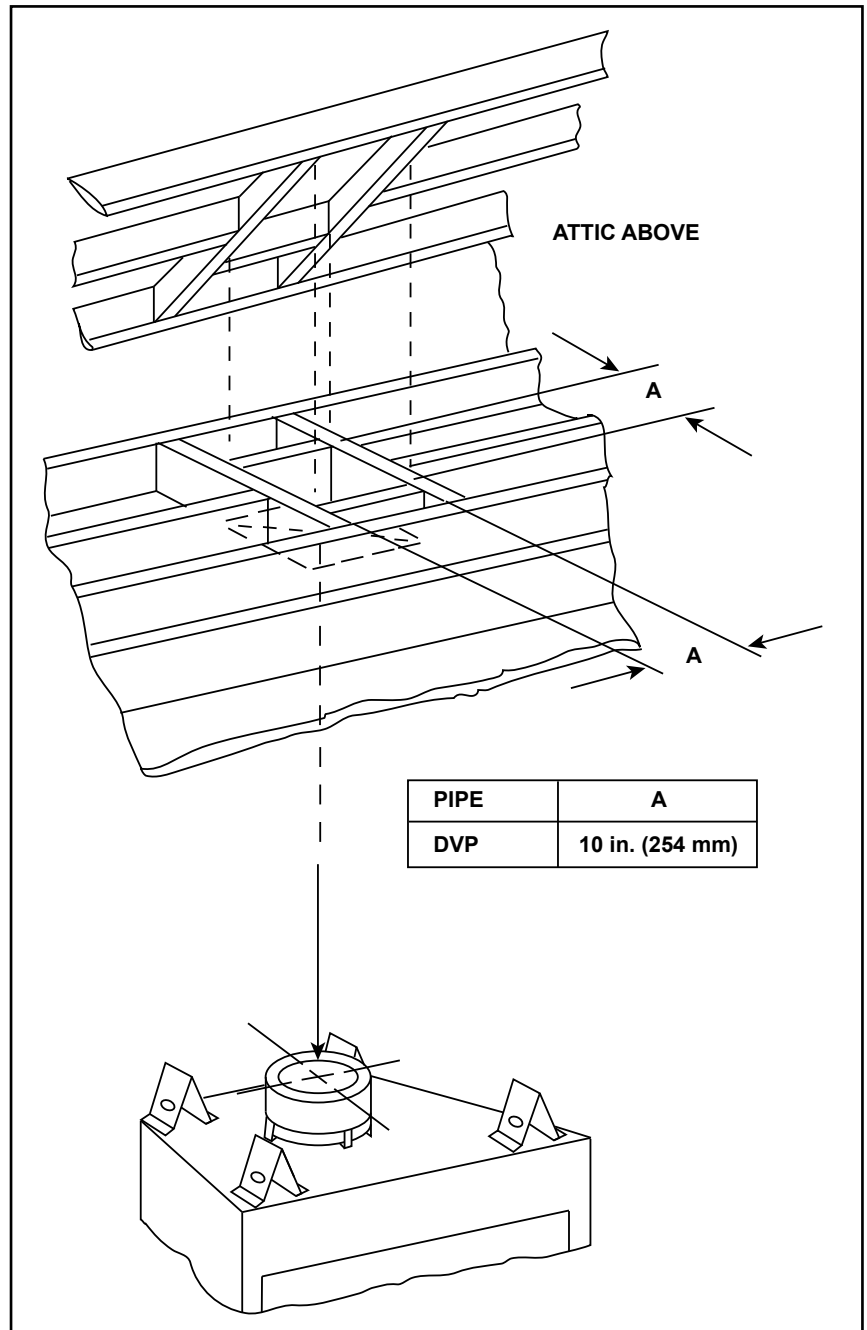

Figure 5.5 Installing Ceiling Firestop - Generic Fireplace Shown
- **DVP pipe only** - Frame an opening 10 in. by 10 in. (254 mm by 254 mm) whenever the vent penetrates a ceiling/floor (see Figure 5.5).